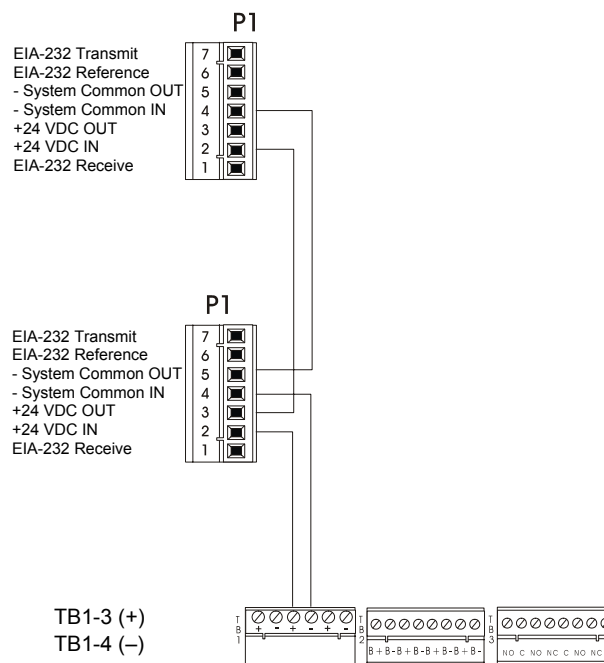

Figure 139 Power Connections for LCD-80 Series Annunciators
1. Connect each LCD-80 to 24 VDC operating power (power-limited and supervised) to the AFP-200 as shown in Figure 139 on page 146.
Figure 139 shows typical power wiring for ACS and LDM series annunciators:
1. Connect each annunciator to 24 VDC operating power (power-limited and supervised) to the AFP-200 as shown in Figure 139 on page 146.